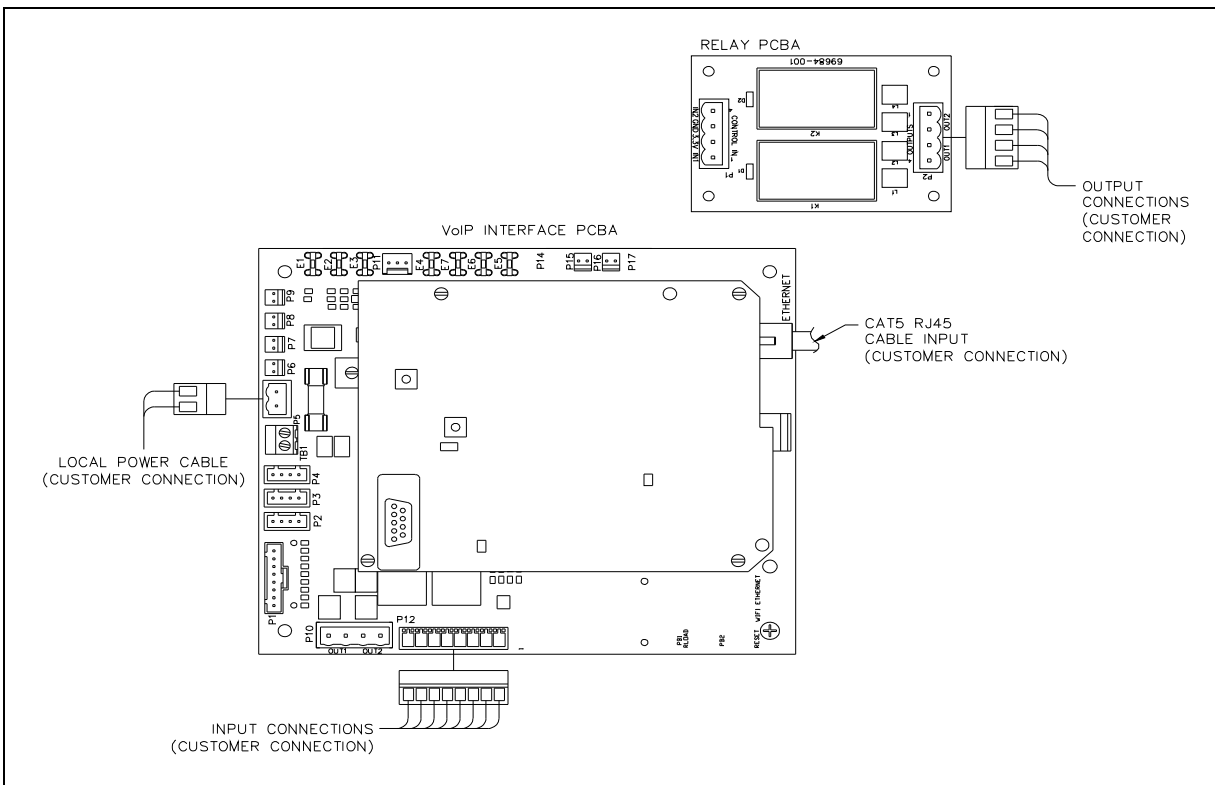

Figure 6. Internal PCBA Connections
2. Plug the incoming Cat5 data line to the network RJ45 cable jack on the underside of the VoIP circuit PCBA. See Figure 6.
Connect a Cat5 or Cat5e UTP cable with an RJ45 connector between the Local Area Network (LAN) and the VoIP PCBA. See Figure 6.